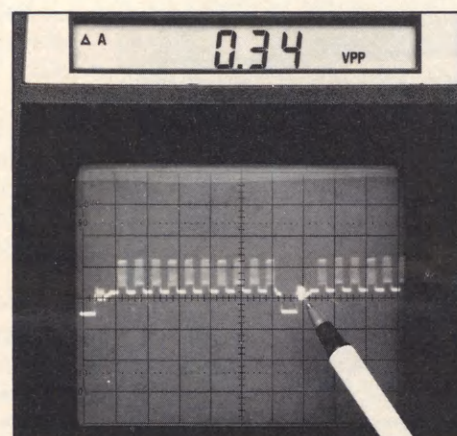

Fig. 4: The amplitude of a specific portion of the waveform is displayed with digital accuracy.
- While viewing a composite video waveform, use the SC61's DELTA PPV function to intensify the chroma burst. Show the burst's peak-to-peak amplitude directly on the digital display. Compare that to your result when you intensify the sync pulse. Per FCC specs, they're the same amplitude (Figure 4).